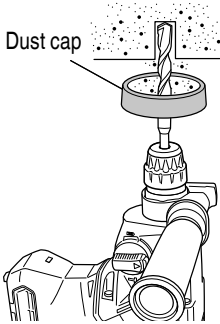
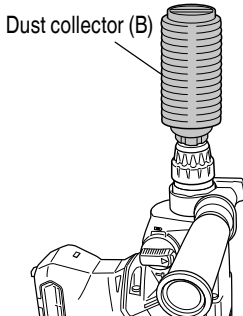

Fig. 13
Fig. 14
4. Installation of dust cup or dust collector (B) (Optional accessories) (Fig. 13, Fig. 14)
- When using a rotary hammer for upward drilling operations attach a dust cup or a dust collector (B) to collect dust or particles for easy operation.
Use the dust cup by attaching to the drill bit as shown in Fig. 13.
- Installing dust collector (B)
When using dust collector (B), insert dust collector (B) from the tip of the bit by aligning it to the groove on the grip. (Fig. 14)